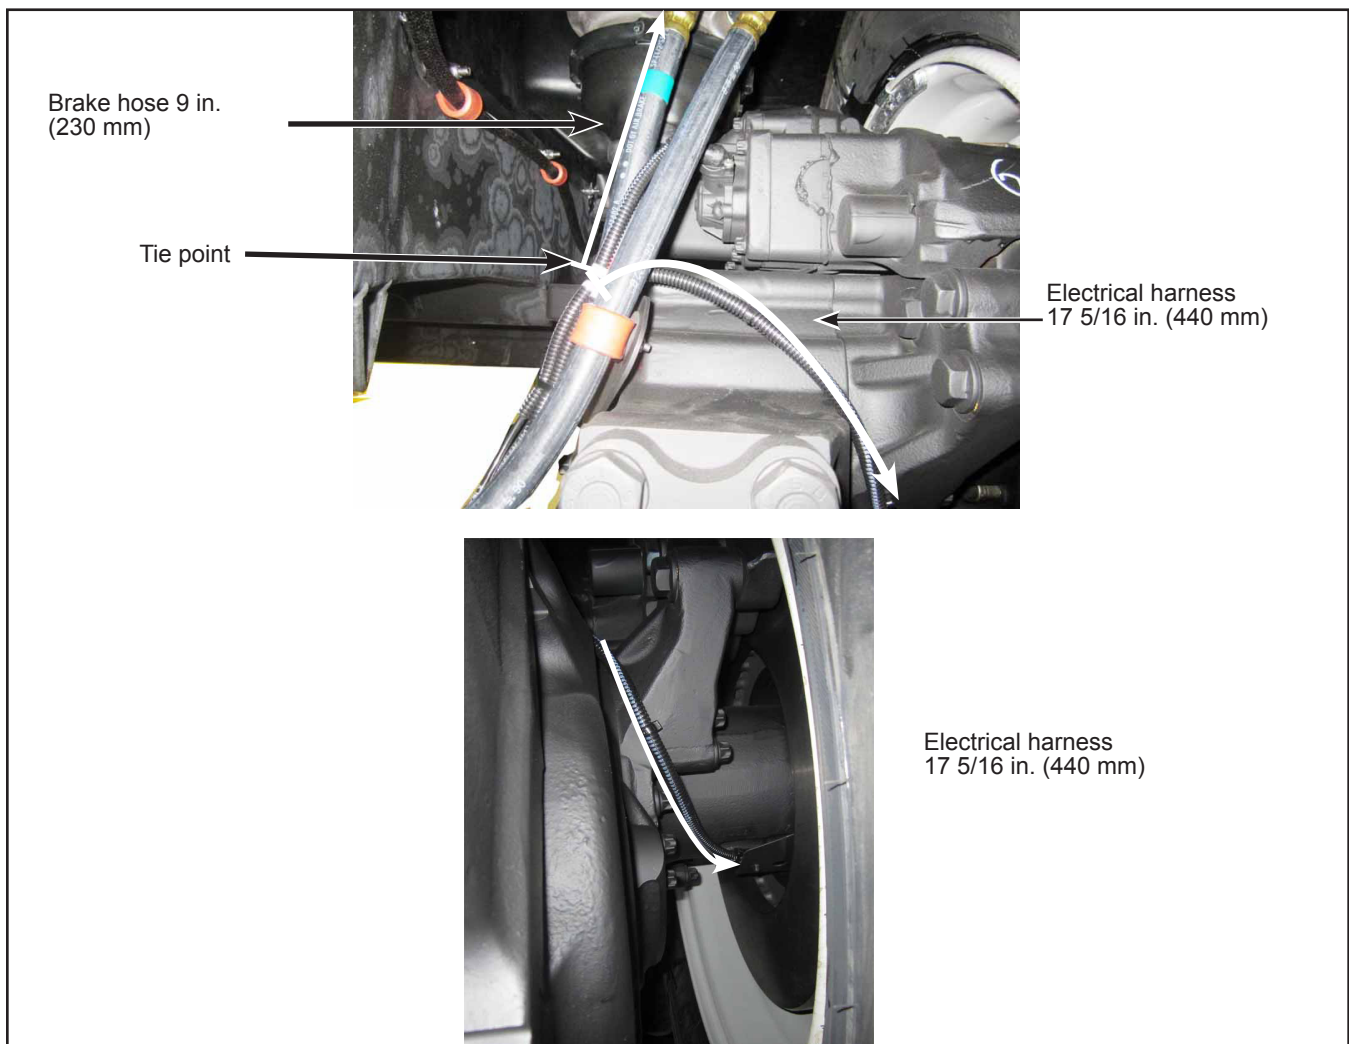

Figure 19 - ABS sensor Electrical Harness Positioning of Tie Wraps
- 2.23. Mark the electrical harness at the position indicated in Figure 19.
- 2.24. Mark the brake hose at the position indicated in Figure 19.
- 2.25. Affix the electrical harness to the brake hose with a tie wrap at the tie point indicated in Figure 19. If required, affix with other tie wraps.